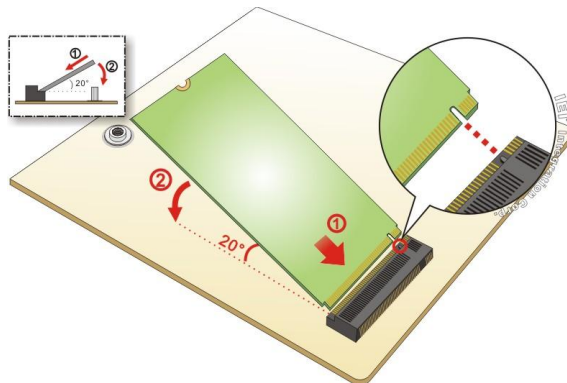

Figure 3-3: M.2 Module Installation
Step 4: Secure the M.2 module with the retention screw. Push the other end of the M.2 module down and secure the module with the previously removed retention screw **(Figure 3-3)**.